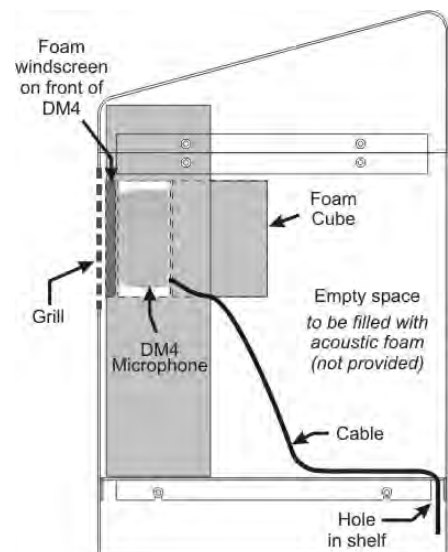

Figure 19. Microphone unit in typical speaker post installation
- Place the microphone, in its foam enclosure, into the compartment, so the front of the microphone windscreen is **flush against the metal**, centered on the grill, as shown in Figure 19.